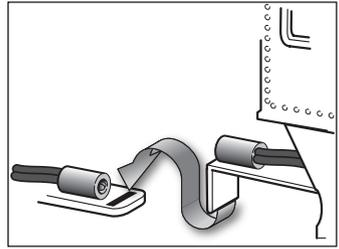

Figure 1. Drawbar connection
2. Place your locomotive and tender on the track and connect the drawbar as shown in Figure 1.
- 2. Place your locomotive and tender on the track and connect the drawbar as shown in Figure 1 on page 4.**
**Note!** Power your locomotive with an alternating-current (50-60Hz AC) transformer only. Powering your locomotive with a direct-current (DC) transformer, or in excess of 19 volts AC, may result in damage to sensitive electronic components.
- 1. With track power off, place your locomotive and tender on the track. Connect the drawbar as shown in Figure 1 on page 4.**